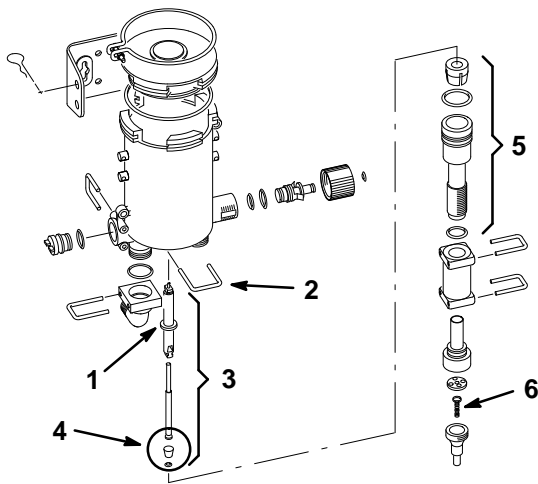

Figure 17
1. Remove the interlock pins and disassemble the plunger and cylinder assemblies (Fig. 17).
2. Clean the plunger O-ring seat area in the cylinder with warm soapy water (Fig. 17).
3. Place the plunger assembly in warm soapy water until the assembly tip and spring operate freely (Fig. 17).